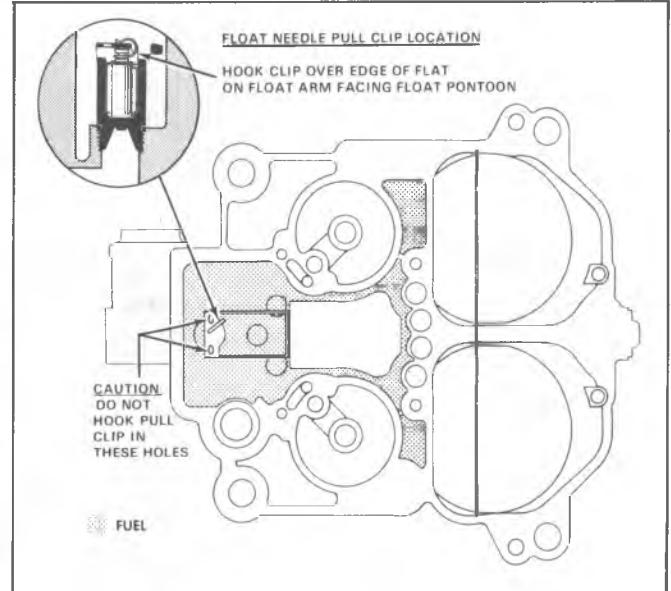

Fig. 6C-55--Pull Clip Location
6. Install primary main metering jets (if removed) (Fig. 6C-47).
Install needle by sliding float lever under needle pull clip--correct installation of the needle pull clip is to hook the clip over the edge of the flat on the float arm facing the float pontoon (Fig. 6C-55). With float lever in pull clip, hold float assembly at toe and install retaining pin from aneroid cavity side (ends of retaining pin face the accelerating pump well).